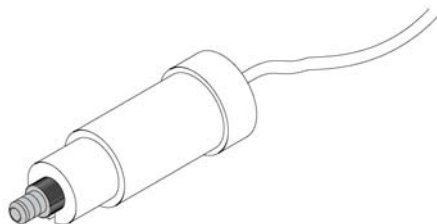

Figure 8 Mounting Tool
- 5 Connect the solvent tubes from the bottle head assemblies to the inlet connectors A to D (typically the left connection of the channel) of the vacuum degasser. Use the mounting tool shown in Figure 8 on page 28 to fix the tube screw. Fix the tubes in the clips of the vacuum degasser.